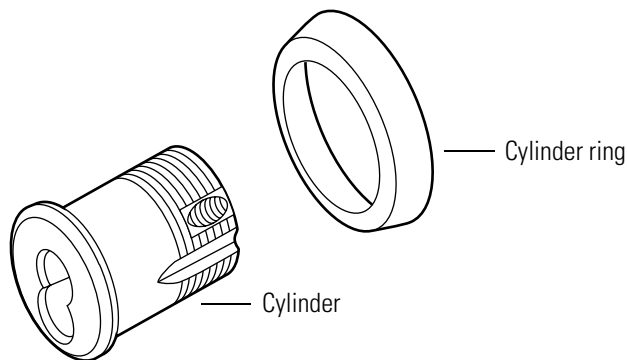

Figure 5.8 Reinstalling the cylinder ring (mortise cylinder shown)
2. Slide the cylinder ring onto the cylinder assembly. See Figure 5.8.